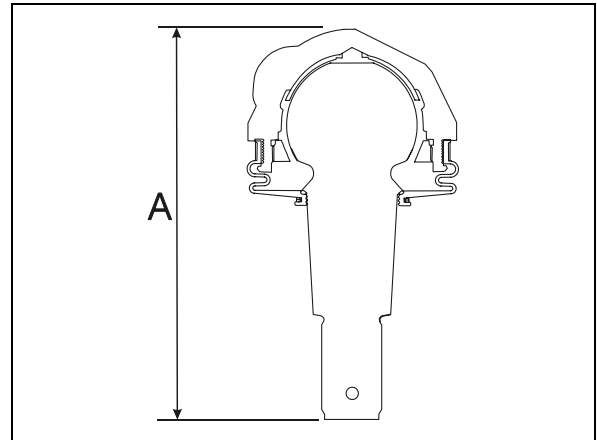

FIGURE 33: UPPER A-ARM CENTRAL BALL JOINT 16116
2. Using a caliper, measure dimension A on figure 33.